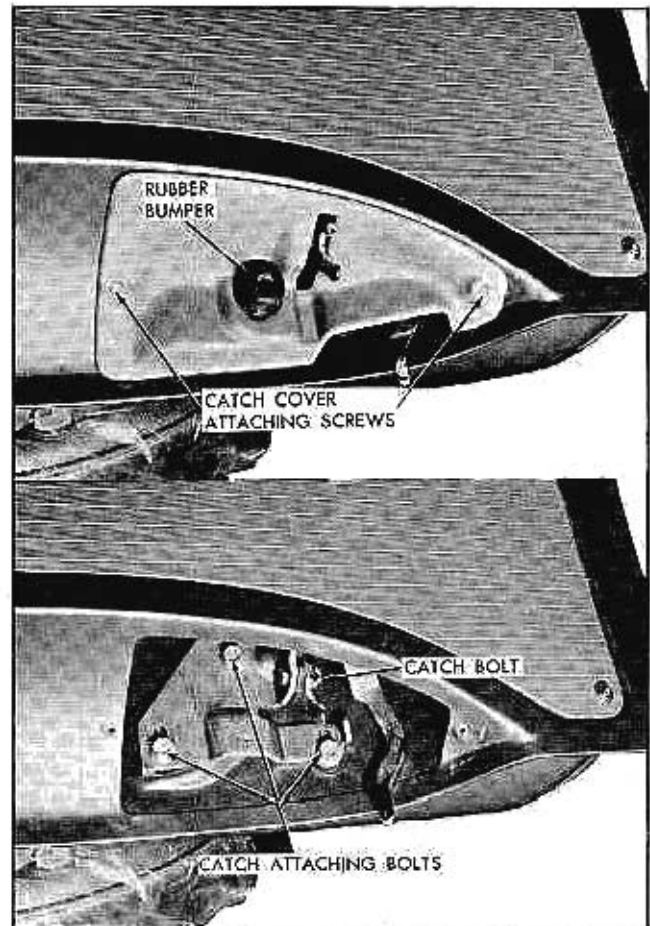

Fig. 5-17 Folding Seat Back Catch
2. Remove rubber bumper and seat back catch cover attaching screws (Fig. 5-17).
in same position. Remove seat back catch attaching bolts (Fig. 5-17) and remove catch from seat assembly.
The folding seat back catch is adjustable in or out for proper engagement with the catch striker located on the rear wheelhouse. To adjust the catch remove the seat back rubber bumper and catch cover (Fig. 5-17). With cover removed install rubber bumper and loosen seat back catch attaching bolts. Adjust seat back catch in or out so that the short end of the catch bolt (Fig. 5-17) just clears the striker bar; then tighten catch attaching bolts. Remove bumper, install catch cover and bumper.